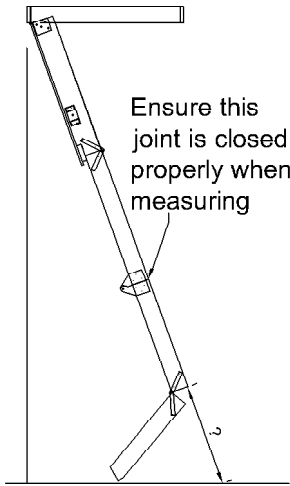

fig. 12
11. With the top and middle sections of the stair open and the bottom section tucked in behind, measure the distance from the bottom of the middle section, to the floor at the same angle as the stairs (figure 12). Do this on both sides.